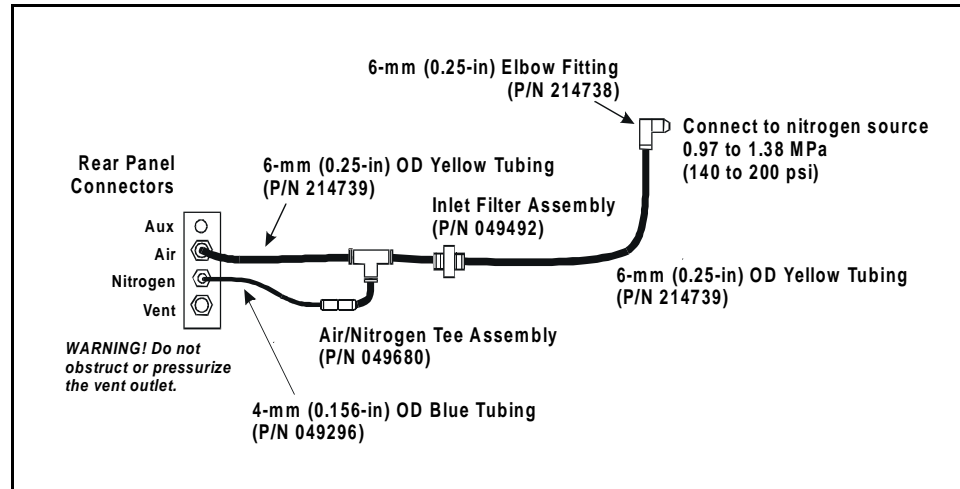

Figure B-2. Connections for Substituting Nitrogen for Air
1. Connect the yellow 6-mm (0.25-in) OD tubing end of the tee assembly to the **AIR** connector on the ASE 200 rear panel (see Figure B-2).